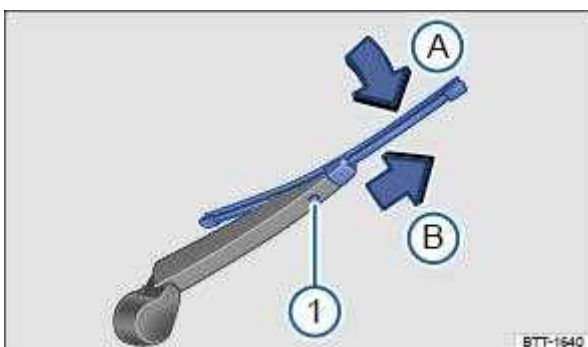

Fig. 165 Changing the rear wiper blade.
- ☒ Press and hold the release button ⇒ Fig. 165 .
- ☒ Tilt the wiper blade in the direction of the wiper arm ⇒ Fig. 165 (arrow ) and pull it off in the direction of the arrow  at the same time. You may need to use some force to do this.
- ☒ Insert a new wiper blade with the same length and design onto the wiper arm in the opposite direction of the arrow. Push it on until it engages ⇒ Fig. 165 . The wiper blade must be in the folded back position ⇒ Fig. 165 (arrow ).